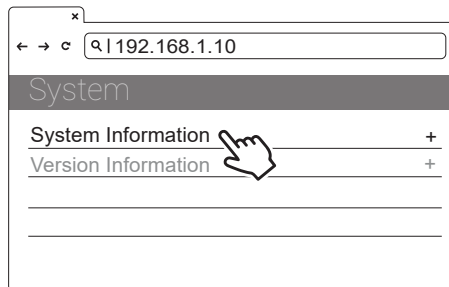

Figure 36. Date and Time Information
- 3) Select: SET | Network | System Information | System DateTime. See Figure 36.